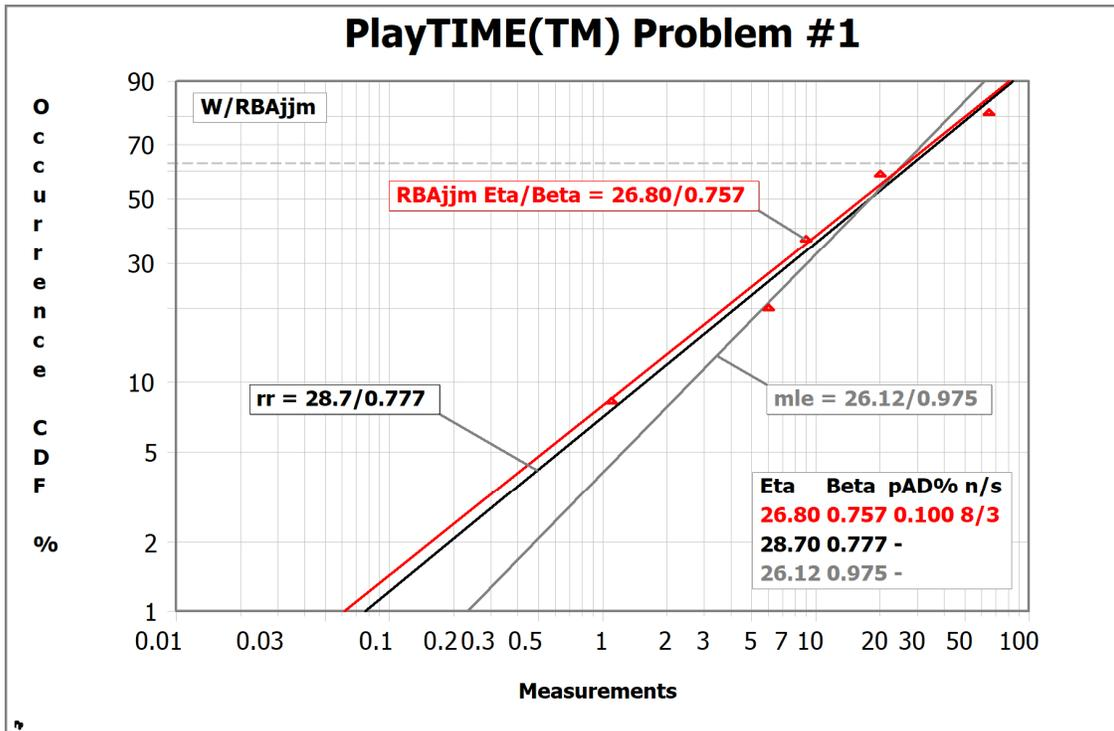

Figure 7: Comparing Rank Regression (rr), Maximum Likelihood Estimate (mle), & mle-RBA (RBAjmm)
Select the small plot to enlarge, it will look a little different than Figure 7. You should get **Eta=28.7, Beta=0.777**. Compared to hand calculations is SSW slower or faster?? Notice the median rank regression (rr) plot line fits the data well. Compare rr, mle, and modified mle (RBAjmm) solutions as follows:
- Get an RBAjmm modified mle solution as follows. From the Main Screen, select the Method/Input icon (showing \wedge ./; symbols), then select modified maximum likelihood icon (showing mle symbol + 2 arrowheads). Plot method should be “RBAjmm”. If not, return to Method/Input, select “H...Type Of mle Modified...”, select “1...Weibull...”, then “RBA Mindeguia”. This latest plot (Figure 7) should have RBAjmm fit (**Eta=26.80, Beta=0.757**) agreeing well with Line 1 (rr).